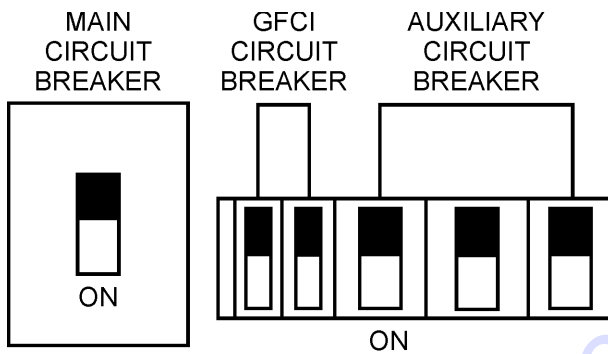

Figure 40. Main, Aux. and GFCI Circuit Breakers (ON)
15. Place the **main, GFCI, and aux.** circuit breakers in the **ON** position (Figure 40).